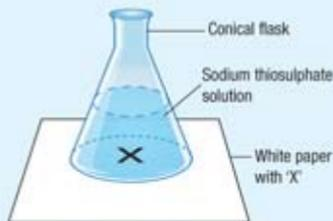

Figure 4.13
2. Place the conical flask on the 'X' on the white paper (Figure 4.13).